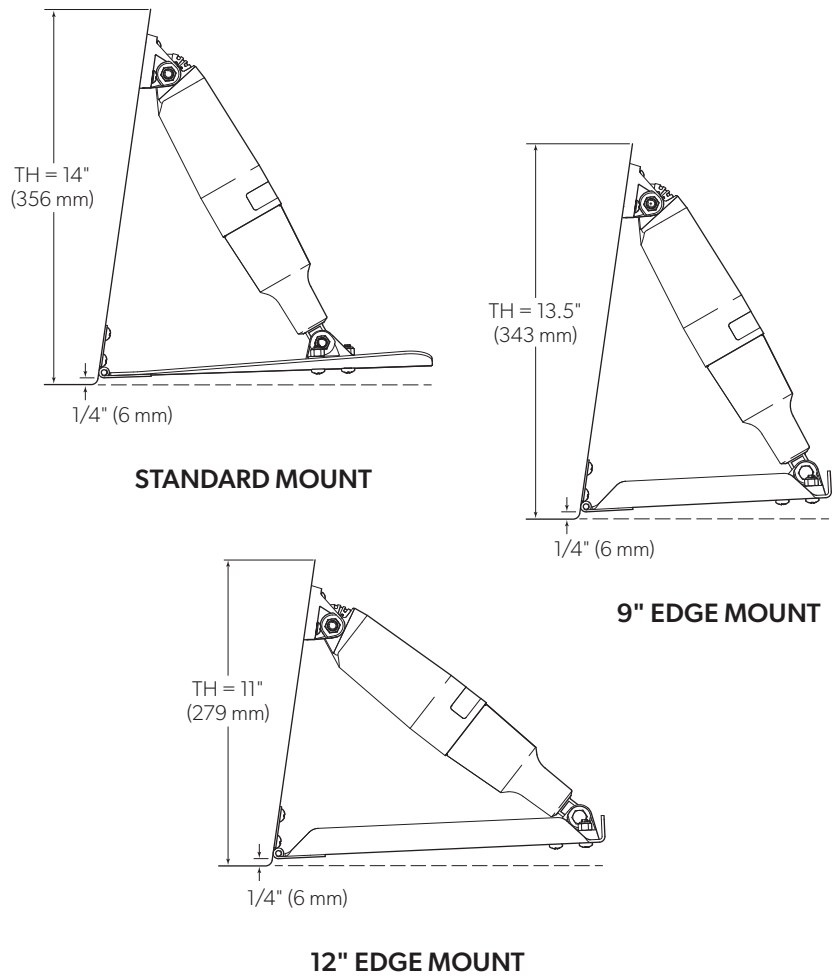

Figure 12-3. Dimensions shown apply to standard 2.25" actuator only.
- There are different tab configurations available and they will have different transom height (TH) requirements as shown in figure 12-3. The actual transom height will vary with the angle of the transom, so the maximum value for TH is shown.